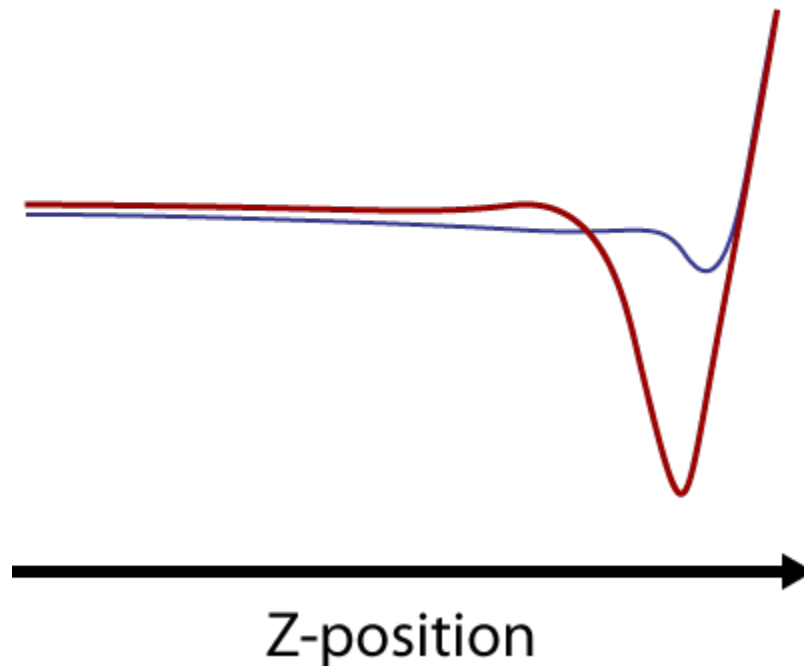

Figure 17. Ideal force curve shape for PeakForce Tapping mode.
- a) Improve the force curve by right-clicking the graph (Figure 17) and selecting Autoconfig.
- The lower the LP Deflection BW value, the lower the noise will become. This noise can be observed at the beginning of the force curve, prior to the drop off in force (Figure 17).